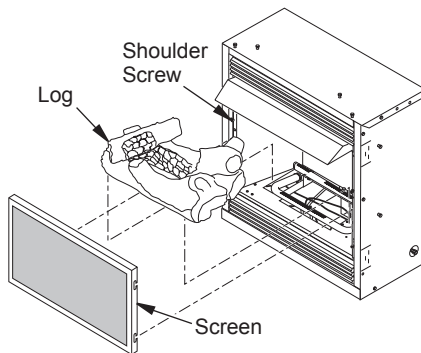

Figure 25 - Installing Log and Screen
1. Remove log packaging material and discard packaging. Gently place log over burner (see Figure 25). Do not allow log to contact flame. If flame contacts log, soot will be created.